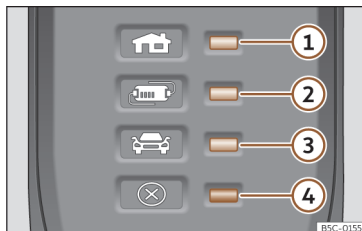

Fig. 62 On the charging cable for power sockets: Indicator lamps on the protection device.
>>> **Fig. 62:**
The electronic protection device >>> **Fig. 62** ensures that the charging connector does not receive current until it is plugged in to the vehicle's charging connector.
One or more control lamps >>> **Fig. 62** ①, ② or ③ light up green.
Display >>> Fig. 62	Meaning
①, ④ flashing	The housing connector has overheated.
②, ④ flashing	The protection device has overheated.
If the charging process continues with a lower current, both the operating indicator and the warning lamp >>> Fig. 62 ④ flash red.
- If it disconnects again, or the charging current reduces and the cause does not seem to be exposure to an external heat source, make sure that the green control lamp is flashing >>> Fig. 62. Visit a specialised CUPRA dealer or any SEAT network dealer to check the charging cable. Get an establishment that specialises in electrical installations to check the infrastructure connection.
If the red warning light ④ flashes or turns on without one of the indicator lamps >>> Fig. 62 ①, ② or ③ also turning on continuously on the status indicator, there is a fault.